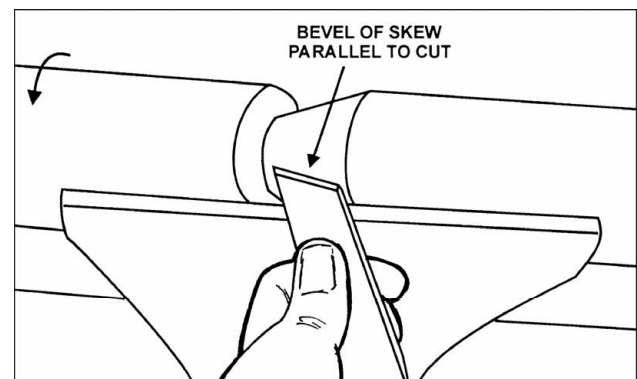

Fig. 19
3. Move the point of skew to the right half of the desired width of your cut, see Figure 19.